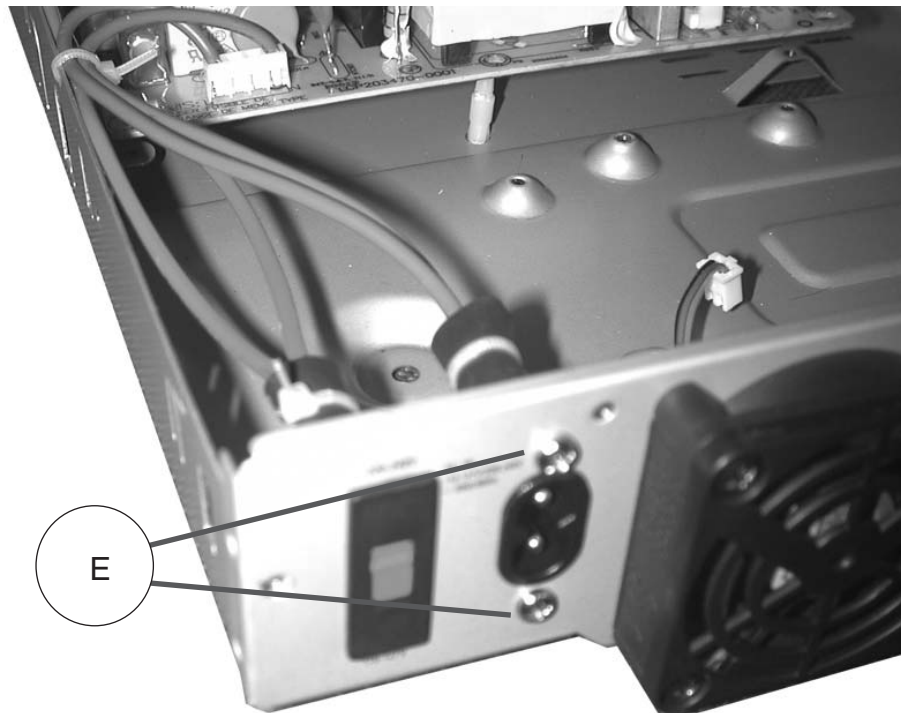

Figure 8
- 1) Loosen 2 screws "E" to remove the power cord as shown in figure 8.